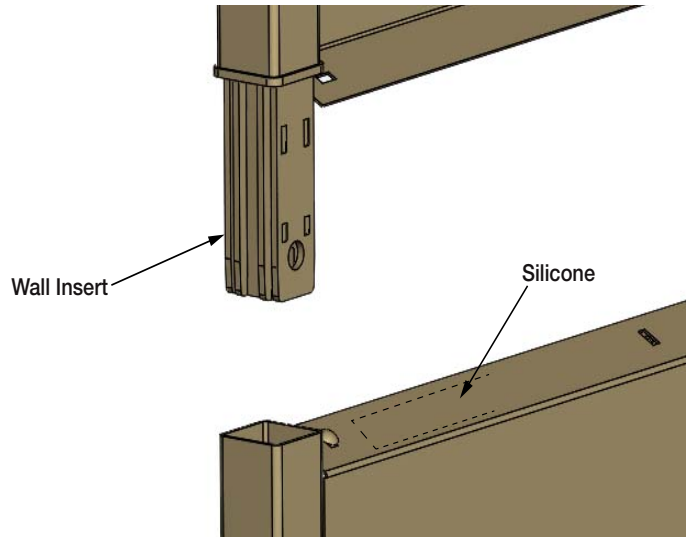

Figure 2-2. Silicon Bead
2. Apply an 1/8" bead of silicone along the upper edge of the floor panel along the entire length as shown in Figure 2-2.